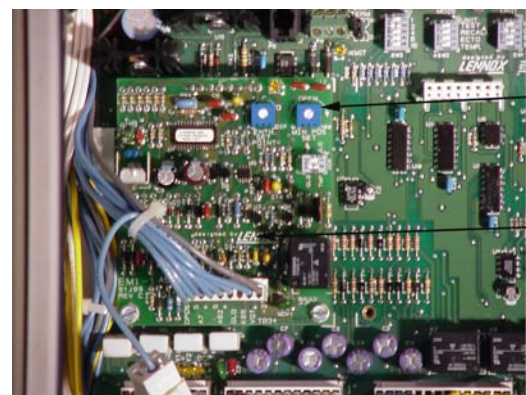

Figure 21
4. The minimum damper blade position must be adjusted on the economizer control board to the correct amount of outside air specified by the customer. Refer to Lennox rooftop unit manual for setting. **See Figure 21** for economizer control board.
90 seconds to allow the ERS media to pivot out of the air stream. After this delay timer has been satisfied, the exhaust air blower will operate. **See Figure 21, 22 and 23.**